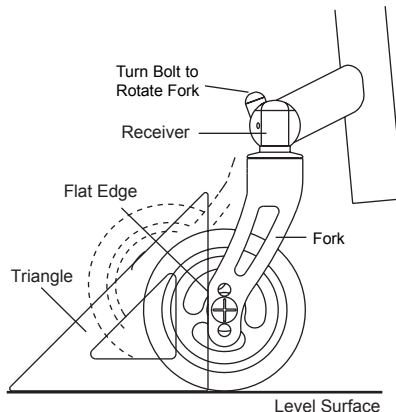

Figure 112
4. Using a drafting triangle or similar 90° angle tool as shown in Figure 112, rotate the fork until the flat edge of the fork is perpendicular to the level surface.